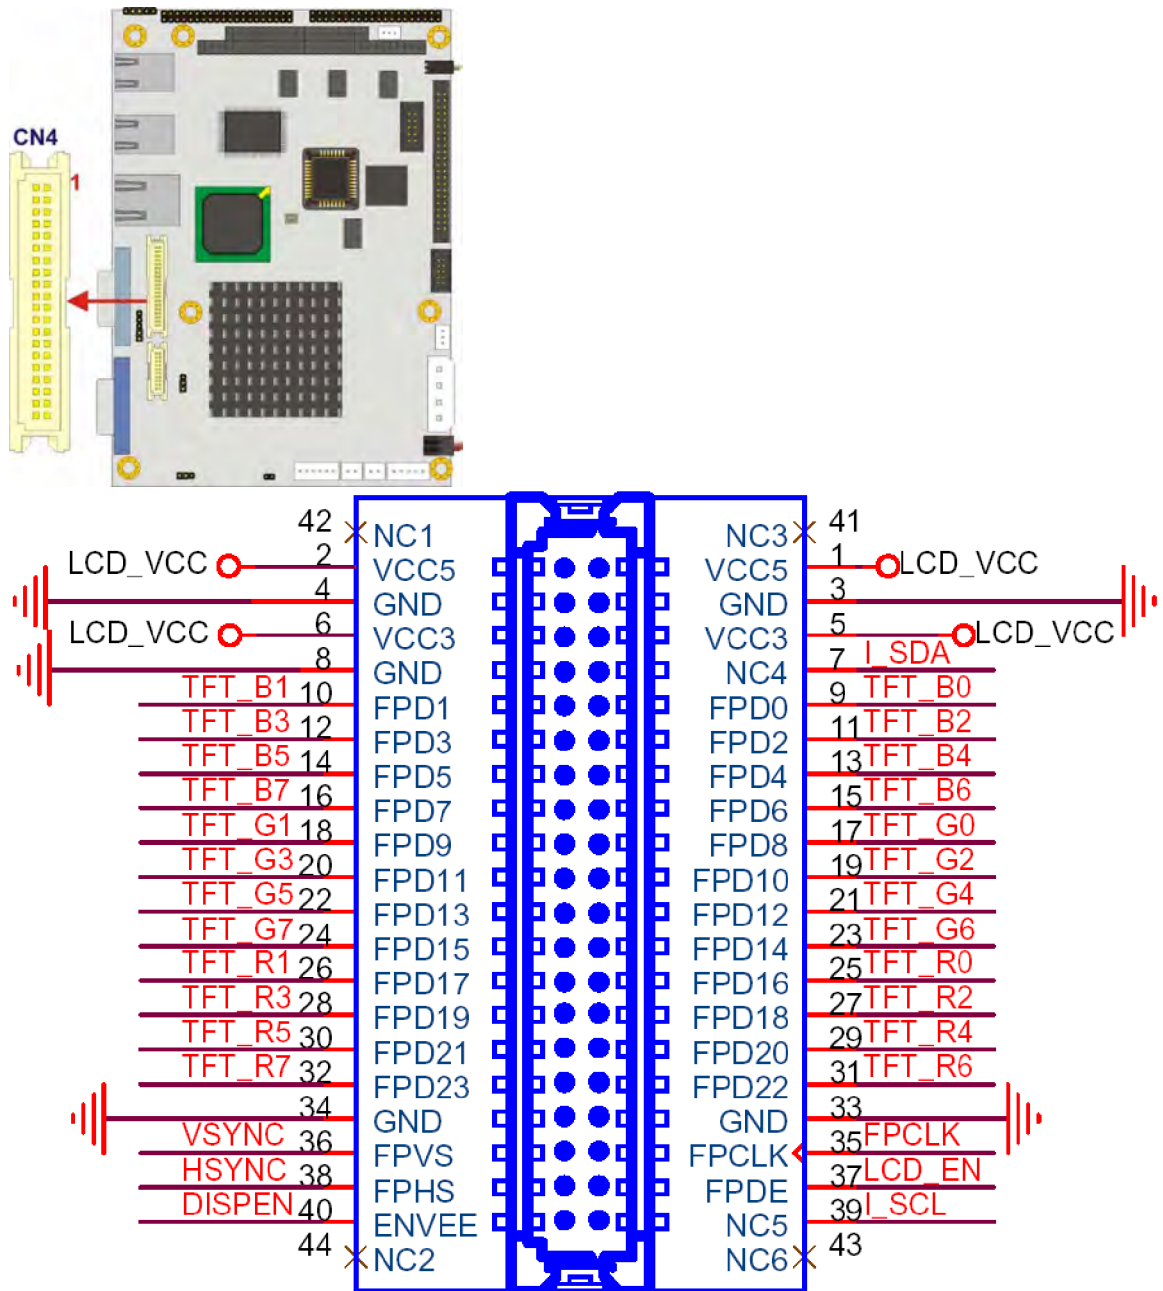

Figure 4-19: TFT LCD TTL Connector Pinout Locations
- CN Location:** See Figure 4-19